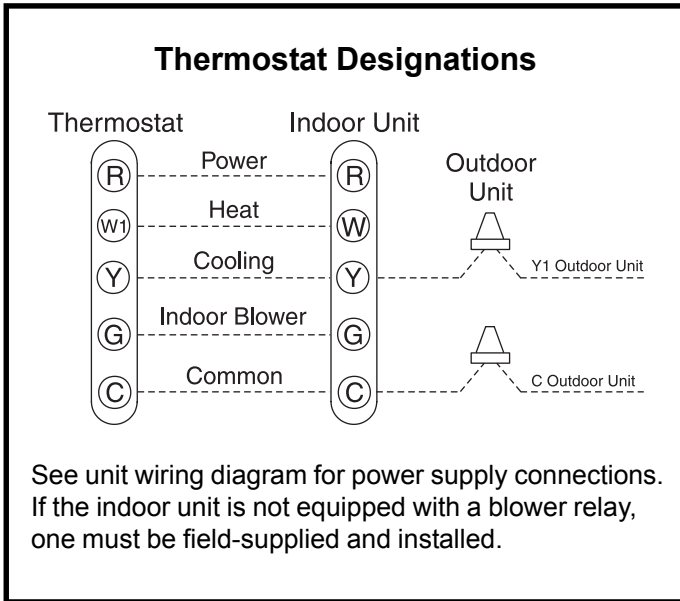

Figure 2
4. Install low voltage wiring from outdoor to indoor unit and from thermostat to indoor unit (see Figure 2).